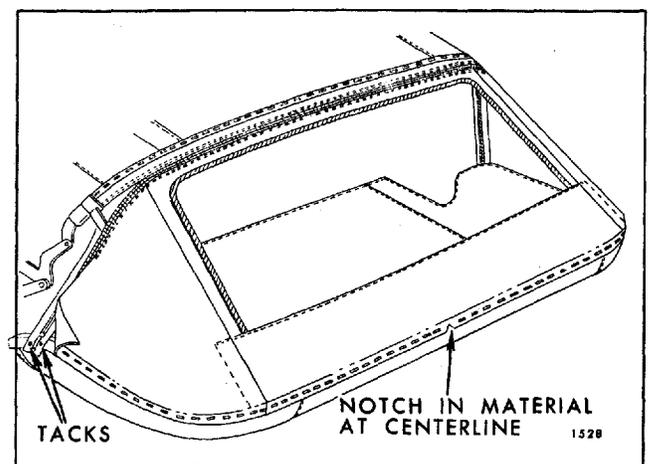
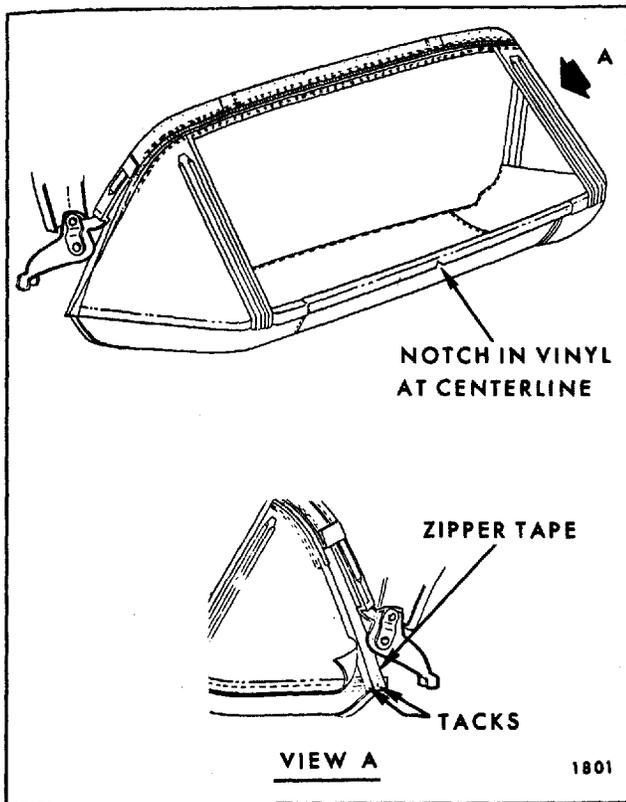

Fig. 6-17—Back Curtain Installation
Fig. 6-18—Back Curtain Installation
**NOTE:** Notch in back curtain material at lower edge indicates centerline of back curtain assembly (Fig. 6-17). In addition, back curtain lower
8. Tack curtain to rear and rear quarter trim sticks (Fig. 6-17). On "A & Z" Body Styles only, tack zipper tape on right side to forward edge of rear quarter trim stick (Fig. 6-18).